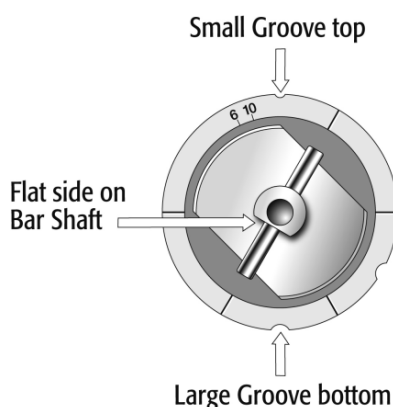
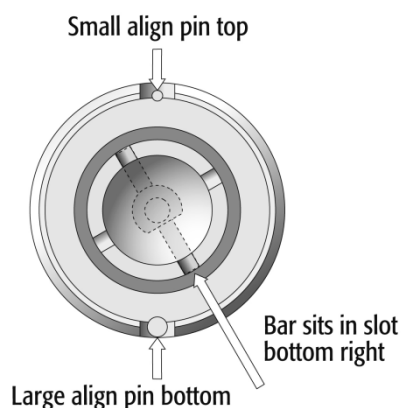

Figure 65. Rheodyne Valve PD7991, Rotor Position
Figure 66. Valve Drive Settings for Rheodyne Valve PD7991
3. Check that the valve guide pin remains at its position; Observe the correct orientation of the guiding pin as shown below in Figure 65 and Figure 66 for the Valve Drive position;